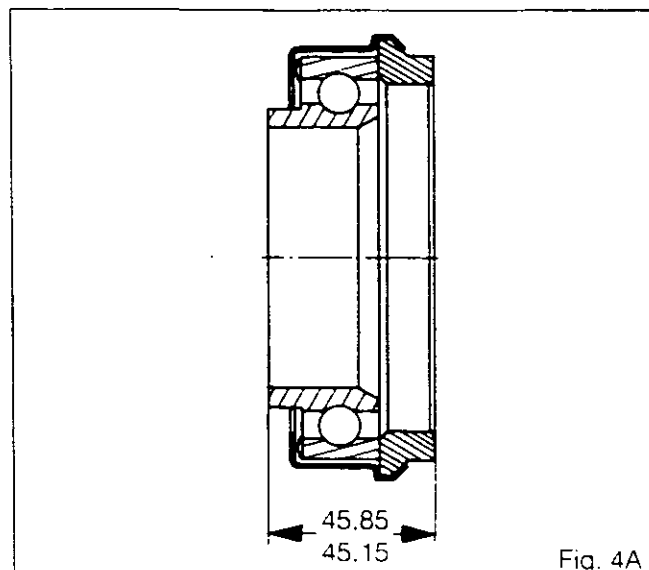

Fig. 4A
- 2) The release bearing PN3384863 M92 (45,5 mm long) is only used as repair part (Fig. 4A). If the flywheel has been skimmed on a tractor equipped with the old bearing (41 mm long) it is mandatory to replace it by the 45,5 mm long bearing.
8. Refit the flywheel and the hub (3).
9. Coat the bolts (4) with Loctite 241.
10. Refit the six bolts (4) and tighten to a torque of 110-140 Nm (4 and 6 cyl.)